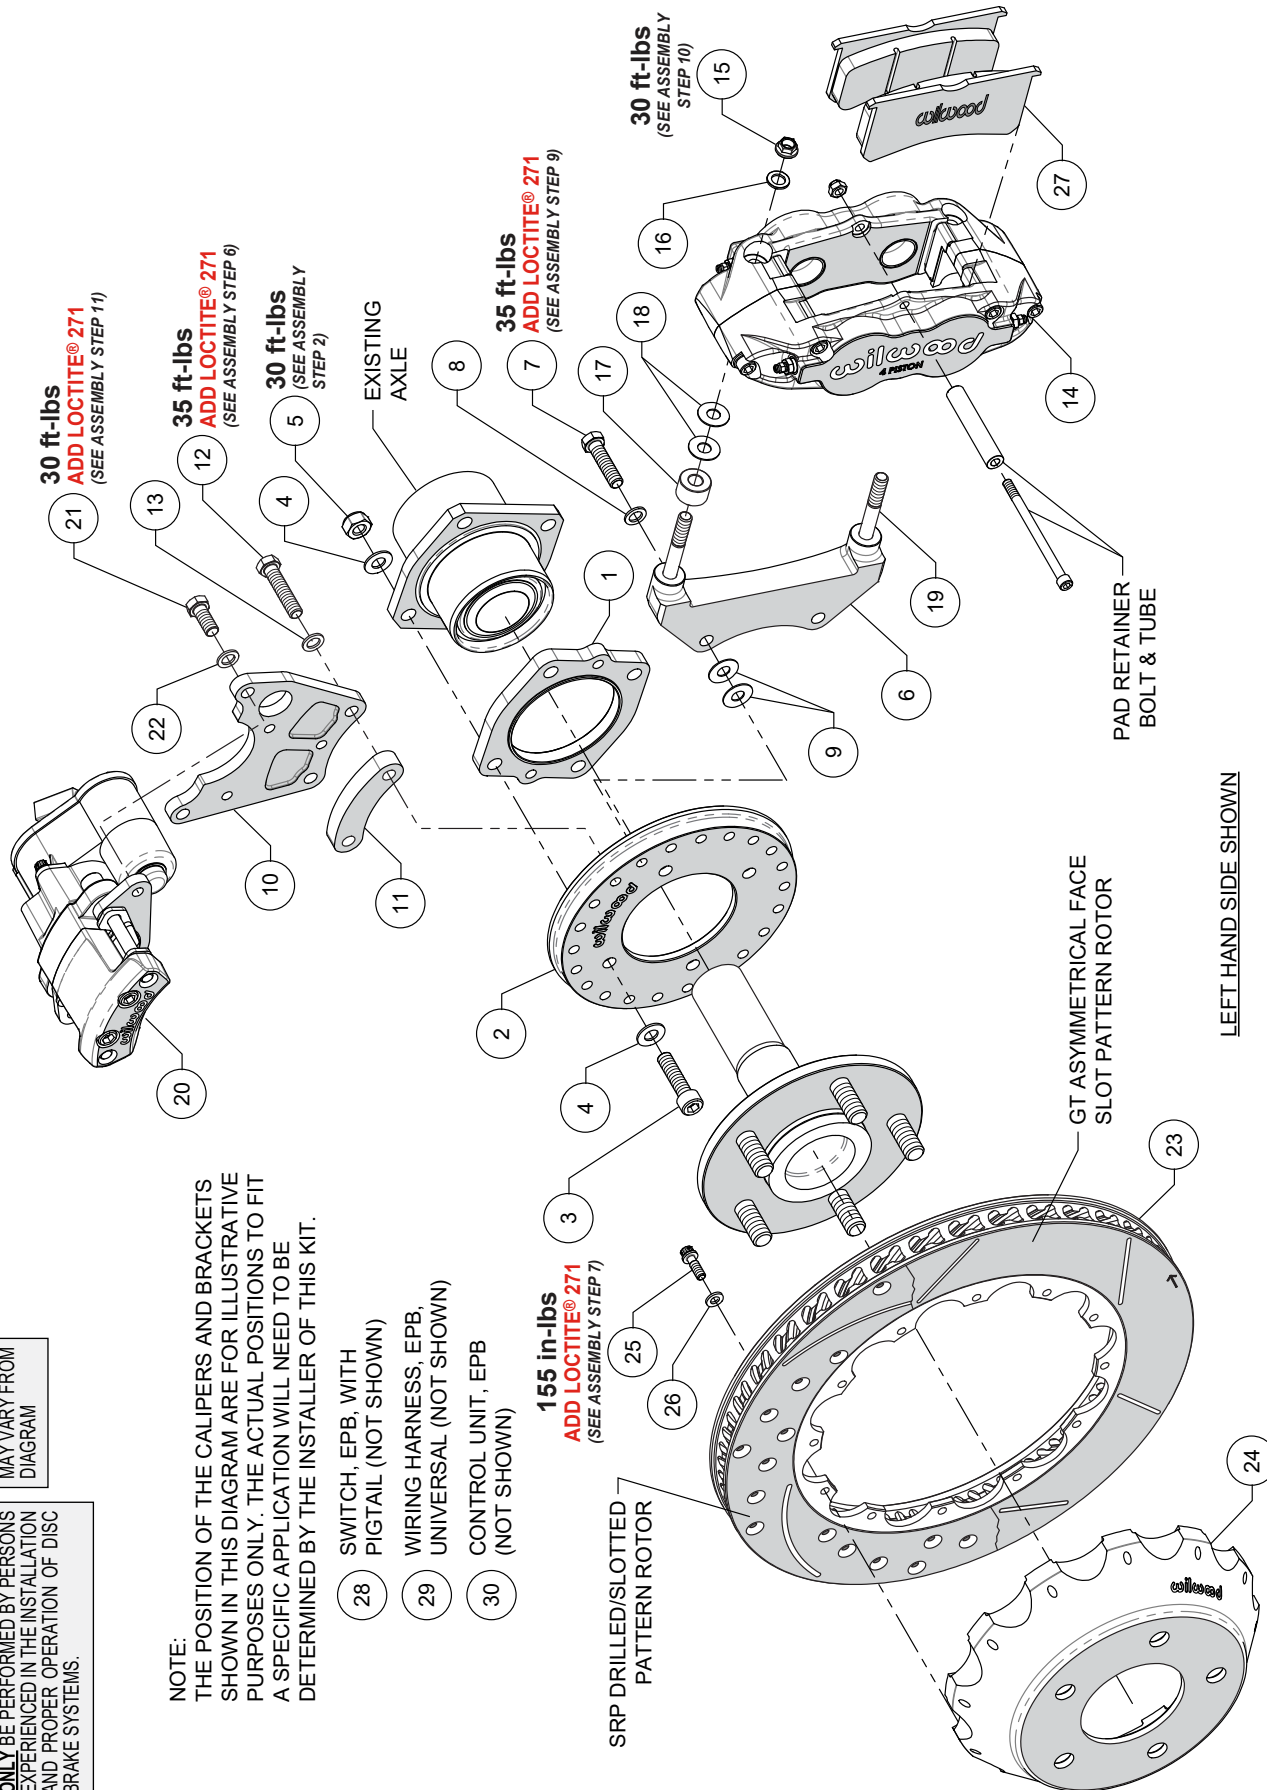

Figure 1. Typical Installation Configuration
NOTE: Numbers in parenthesis refer to the parts list and Figure 1 on the preceding pages.
STEP 1 Slide the backing plate spacer (1) onto the axle housing as shown in Figure 1 and Photo 1. **NOTE:** Ensure the spacer fits flush against the axle flange.
STEP 2 Orient the backing plate (2) as shown in Figure 1 and Photo 2 and mount it to the axle housing flange using bolts (3), washers (4), and lock nuts (5). Ensure the backing plate fits flush against the spacer (1). Torque lock nuts (5) to value shown in Figure 1. Reinstall the axle into the axle housing.
STEP 3 Start by determining the best location for the service caliper (14). This caliper is usually mounted in the 3:00 or 9:00 o'clock position, but may be rotated up or down approximately 45 degrees and still allow for proper bleeding, Photo 3. Orient the service caliper bracket (6) as shown in Figure 1 and Photo 4. Install bracket (6) to the backing plate (2) in the desired location using bolts (7), washers (8), and two .035" shims (9) placed between the bracket and backing plate, Figure 1. Temporarily tighten bolts. Next, mount the service caliper to the bracket (6) using lock nuts (15) and washers (16). Temporarily tighten bolts. Check that the caliper (including inlet fitting and hose) has sufficient clearance to all surrounding components through the full suspension travel. Relocate the caliper/bracket on the backing plate as needed to ensure proper clearance is achieved.
STEP 4 Determine the best location for the EPB caliper (20). **NOTE:** The EPB caliper motor extends farther inboard than the service caliper and therefore needs additional consideration when determining a mounting location with sufficient clearance. In the example application shown in Photo 5, the EPB caliper has sufficient inboard clearance to the leaf spring. However, if the EPB caliper were mounted closer to the 12:00 o'clock position, the inner body of the vehicle would hit the caliper during full compression of the suspension.
STEP 5 Orient the EPB caliper bracket (10) as shown in Figure 1. Install to the backing plate (2) in the desired location using bolts
(12), washers (13), and spacer (11), Figure 1 and Photos 6 and 7. Temporarily tighten bolts. **NOTE:** The EPB bracket is reversible. In one direction the bracket will position the EPB caliper closer to the service caliper, and vice versa if reversing the bracket. Next, mount the EPB caliper (20) to the bracket (10) using bolts (21) and washers (22). Temporarily tighten bolts. **NOTE:** EPB calipers are left and right handed, however they can be used on either side of the vehicle to best suit your specific application. Check that the EPB caliper (including wiring harness connector) has sufficient clearance to all surrounding components through the full suspension travel. Relocate the EPB caliper/bracket on the backing plate (2) as needed to ensure proper clearance is achieved.